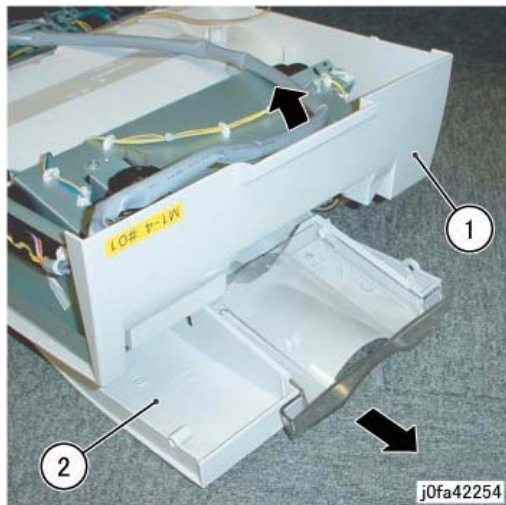

Figure 4 Disconnecting the Connector
10. Disconnect Connector (Figure 4):